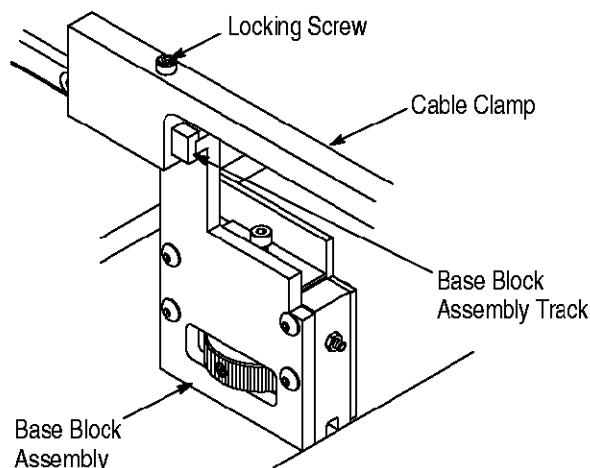

Figure 2
4. Slide the bottom of the cable clamp onto the base block assembly track as shown in Figure 2.